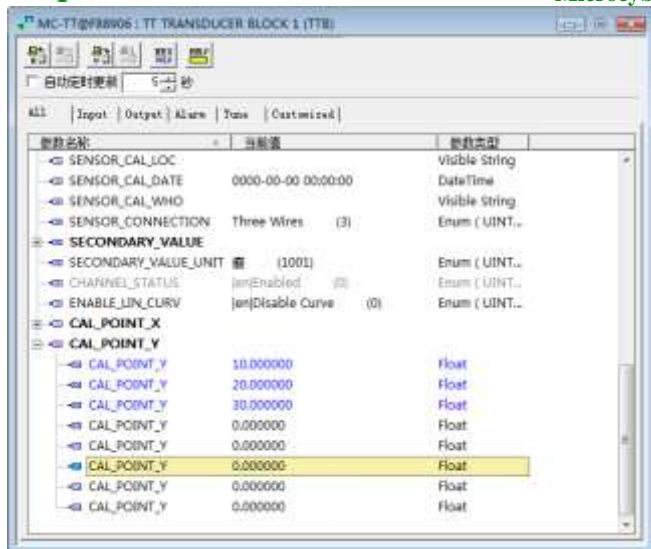

Figure 4.4 CAL_CURVE_Y configuration
- 1) Smart temperature transmitter supports 8 calibration point inputs—the parameter CAL_CURVE_Y array of the transducer block. User can write output value to calibrate into array in turn and select unit. For example, when for three-point interpolating calibration, 10, 20, 30 can be selected as the calibration points, the values are written in CAL_CURVE_Y array, shown as Figure 4.4.